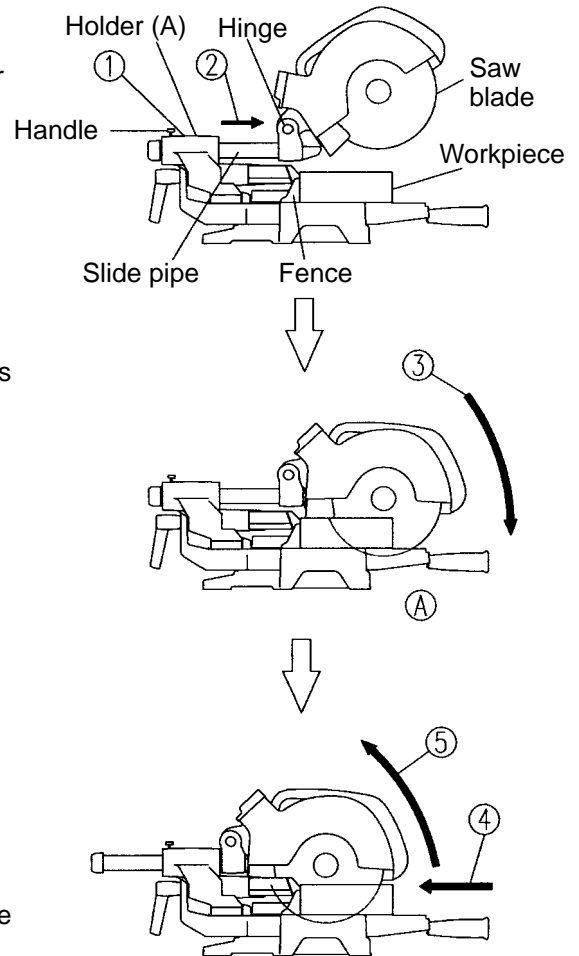

Fig. 36
(1) Cutting efficiency will be reduced if a dull saw blade is used, if an excessively long extension cord is used, or if the wire gauge of the extension cord is too small. (For details, refer to the Instruction Manual "USE PROPER EXTENSION CORD".) This is particularly important when cutting materials with dimensions which are at or near the maximum capacity for the machine.
(2) The customer should be advised to thoroughly inspect the workpiece to ensure that there are no metallic objects (nails in particular), sand, or other foreign matter in or on the workpiece. Contacting such foreign matter will not only shorten the service life of the saw blade, but could cause serious accident. Should the saw blade tips be broken off, the tips may fly toward the operator.
(3) **Press cutting (③ in Fig. 36)**
(4) **Slide cutting (① to ⑤ in Fig. 36)**
Instruct the customer to always slide the saw blade section toward the fence while cutting, as shown by arrow ④ in Fig. 36.
- ⑤ On completion of the cutting operation, turn the switch off and wait for the saw blade to come to a complete stop before raising the handle to its original position. Raising the handle while the saw blade is still rotating may cause unwanted cutting marks on the workpiece.